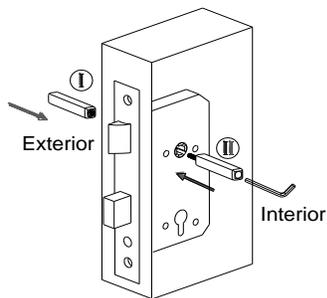

Fig 4
- 2) Using allen key, secure supplied screw through part I of Split Spindle with part II of Split Spindle as shown in Fig 4. Ensure that the end of each part of the split spindle is inserted tightly into the split follower of lockcase.